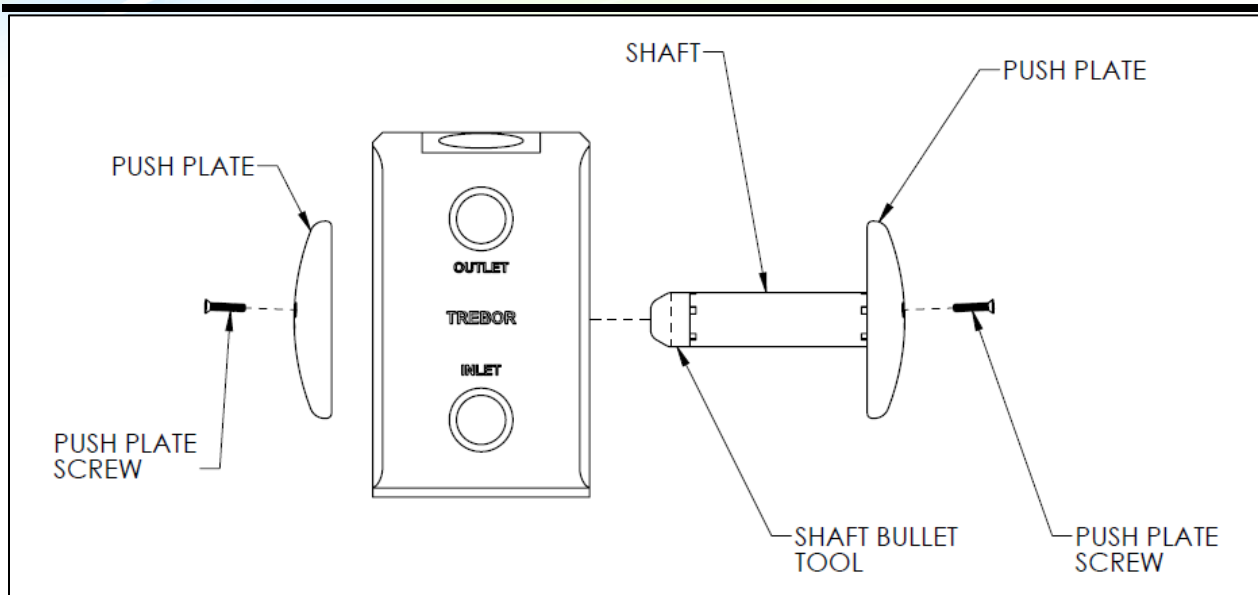

Figure 4-9
- Thread one push plate onto shaft until push plate bottoms out on shaft shoulder. (See Figure 4-9.)
- Insert shaft through shaft bore as shown in Figure 4-9.